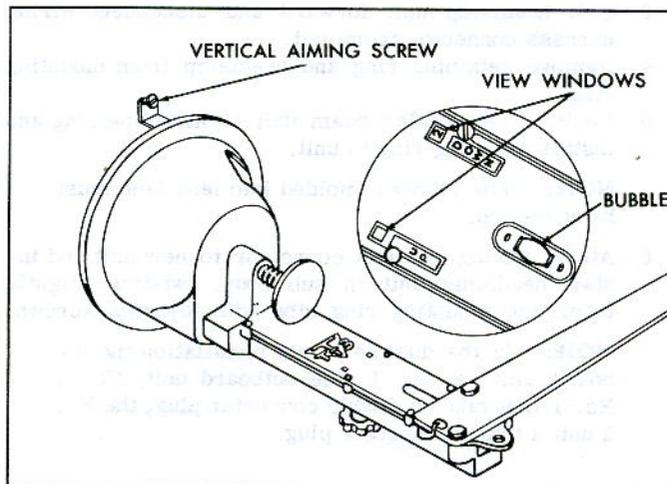

Fig. 7—Selecting Level Aiming Area
3. Loosen the slider knob beneath the aimer arm and set the numeral "2" in the DOWN view window (fig. 7). Back vertical lamp adjuster out on each lamp until bubble is outside of black line of vial, then